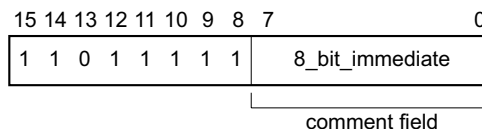

Figure 6-5 Thumb SWI instruction
- the instruction itself is 16-bit, and so requires a halfword load (see Figure 6-5)